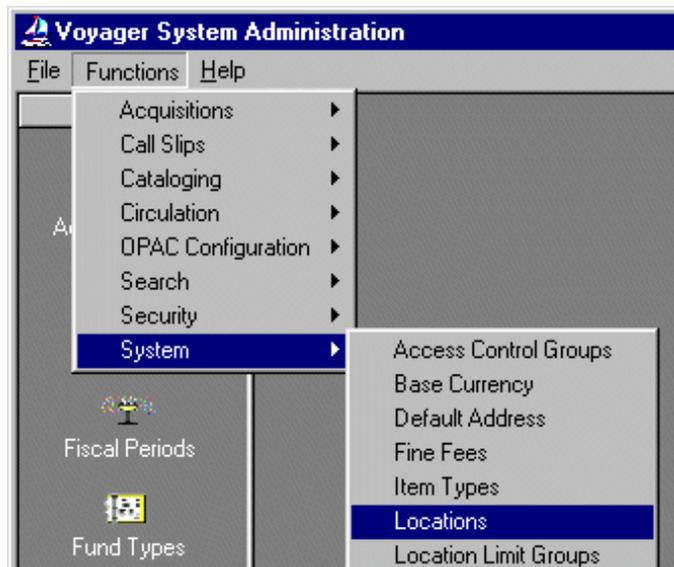

Figure 4-1. Functions - System - Locations menu path in System Administration
2. From the Voyager System Administration **Functions** menu, select **System**, then click **Locations** (see Figure 4-1 on page 4-2). Alternately, click the **System** bar in the left column, then the **Locations** icon below the **System** bar.